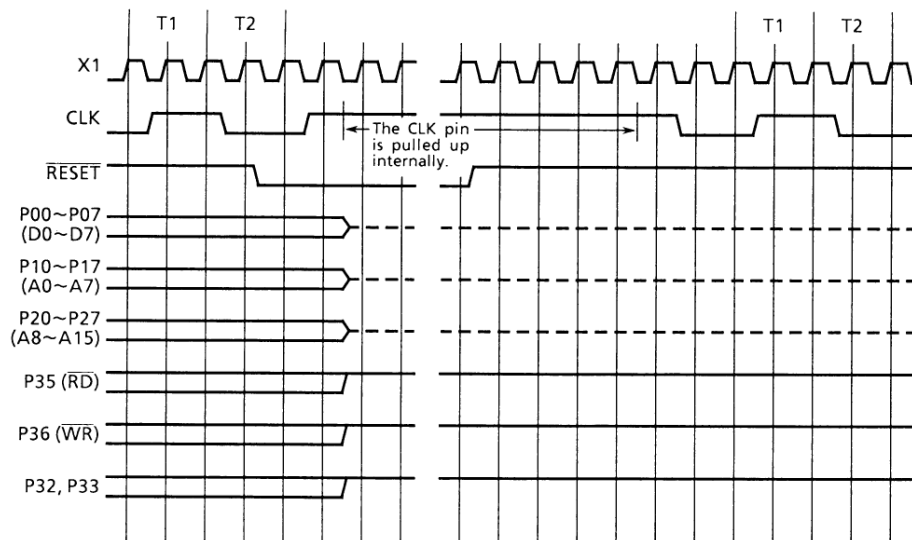

Figure 3.1. Reset Timing
The basic timing of the reset operation is indicated in Figure 3.1. In order to reset the TMP90C802A, the RESET input must be maintained at the "0" level for at least ten system clock cycles (10 stated: 2μsec at 10MHz) within an operating voltage band and with a stable oscillation. When a reset request is accepted, all I/O ports (Port 0/data bus D0 ~ D7, Port 1/address bus A0 to A7, Port 2/address bus A8 to A15) function as input ports (high impedance state). Output ports (P32, P33, P35 (RD) and P36 (WR) and CLK turn to "1". Input ports remain unchanged.